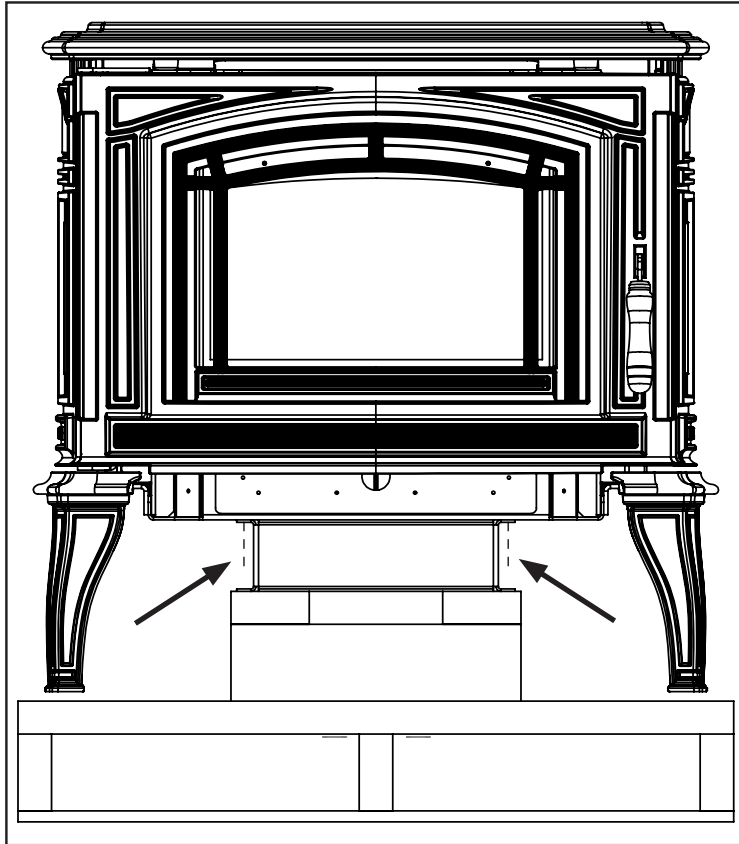
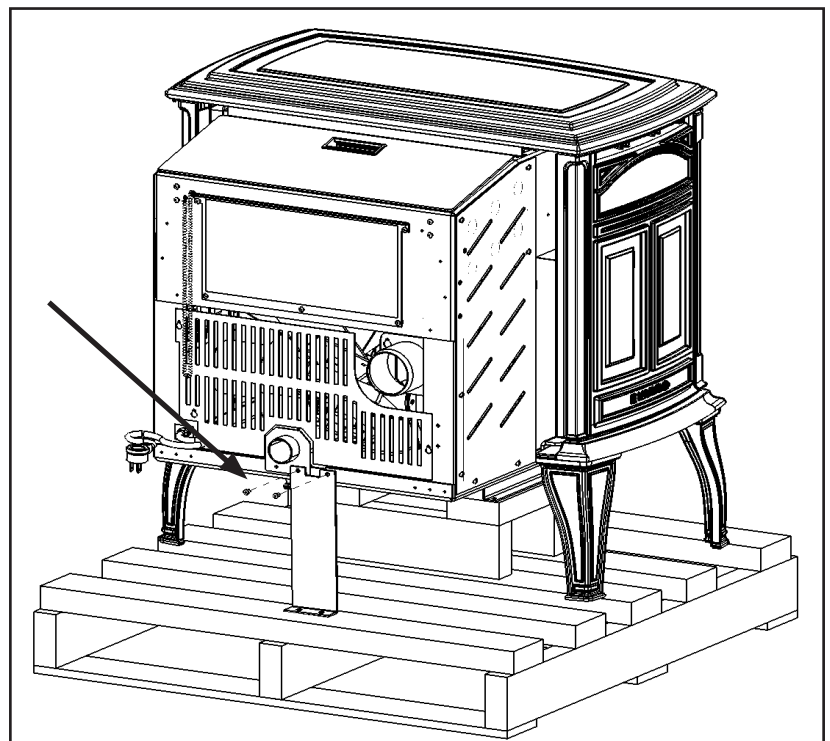

Figure 1.1: Meridian Cast Iron - Bottom Screws
Figure 1.2: Meridian Cast Iron - Rear Screws
To remove your new stove from its pallet, remove the four (4) screws securing the bottom to the pallet using a 3/8" socket or wrench (see Figure 1.1). Next, remove the two (2) screws securing the rear shipping brace using a T20 screwdriver (see Figure 1.2) The steel shipping brackets are not part of the stove and can be recycled. Once the stove is removed from the pallet the four bottom screws must be re-installed to seal the firebox. Re-install the two rear screws as well.